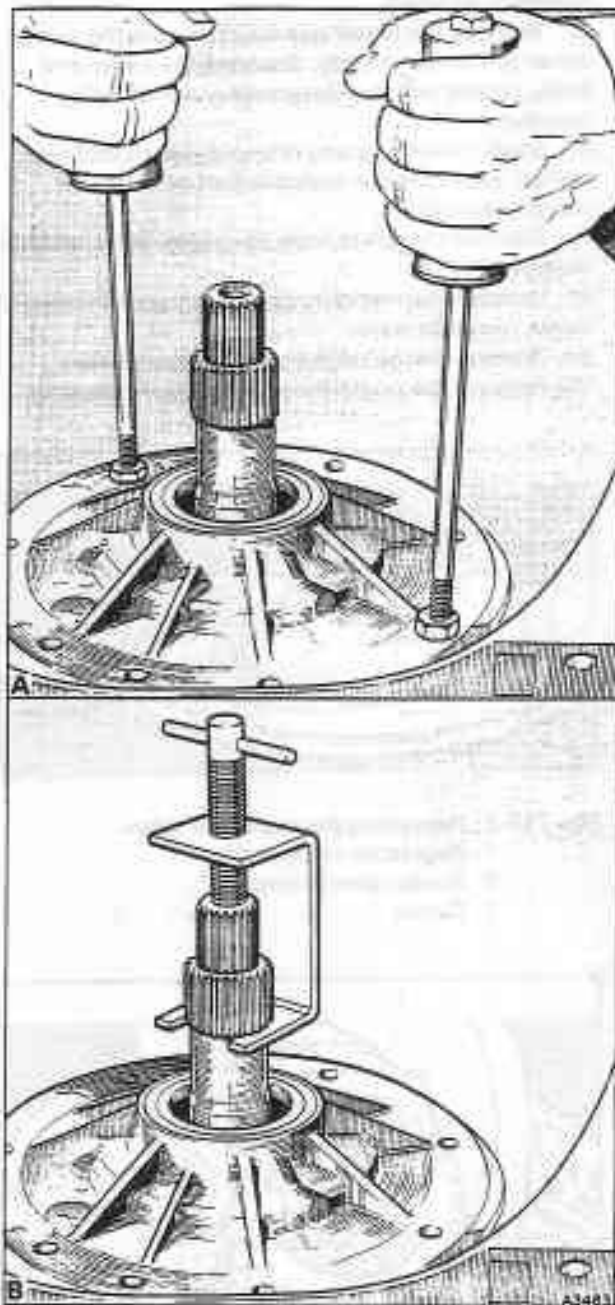

Fig. T17-1 Removing the oil pump
5. Fit either the threaded slide hammers J-7004 or removal tool RH 12556 (as applicable) as shown in figure T17-1. Then, remove the pump assembly from the transmission case.